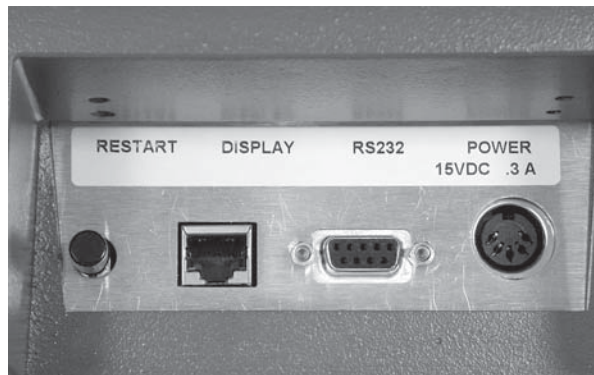

Figure 3
The NCI Model 7820 B has two keys to operate the scale plus a **RESTART** pushbutton. See Figure 3.
2. The scale will enter into Auto Shutdown mode one (1) hour after entering into Sleep mode. Press the *RESTART* pushbutton located at the rear of the scale, as shown in Figure 3, to turn the scale on and return to normal weighing mode.